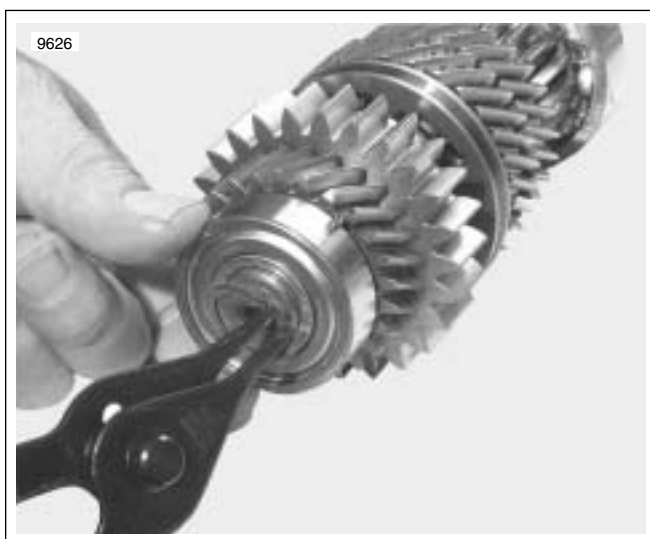

Figure 7-38. 2nd Gear Bearing Retaining Ring
1. See Figure 7-38. Remove retaining ring at 2nd gear crankcase bearing.